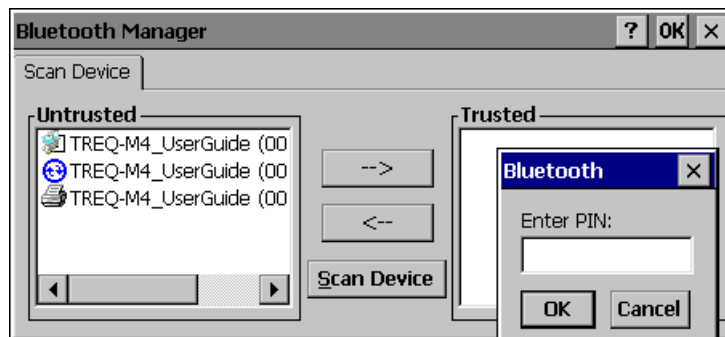

Figure 34
3. Now try to pair with authentication by tapping **[Yes]** when prompted for authentication. A PIN code dialog box appears as shown in Figure 34. This is the security code that is used for authentication and encryption with the other Bluetooth device.